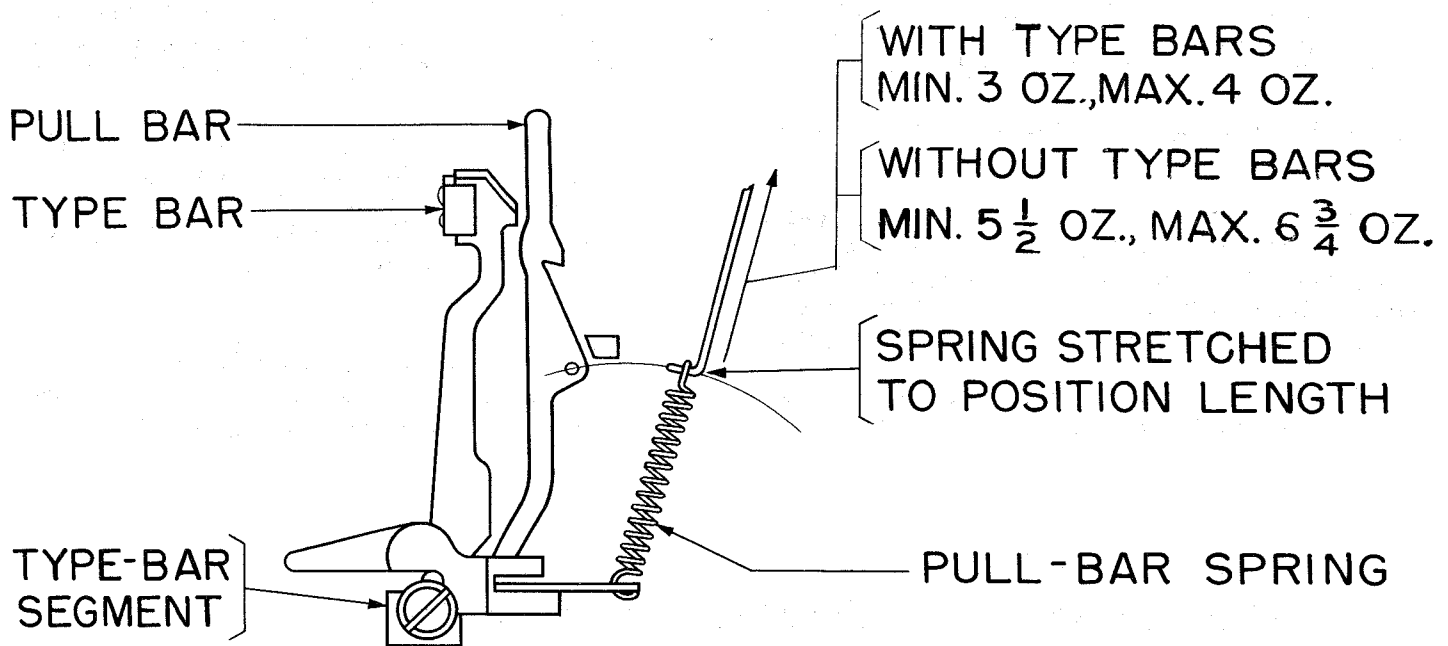

Figure 5
2.10 Pullbar Springs: (Type basket removed per 2.09) It shall require a pull as indicated in Figure 5 to stretch the pullbar springs to position length. If trouble is experienced due to contact bounce, it may be necessary to select other springs of the same code number with tensions toward the high limit, not to exceed the applicable limit specified in Figure 5.